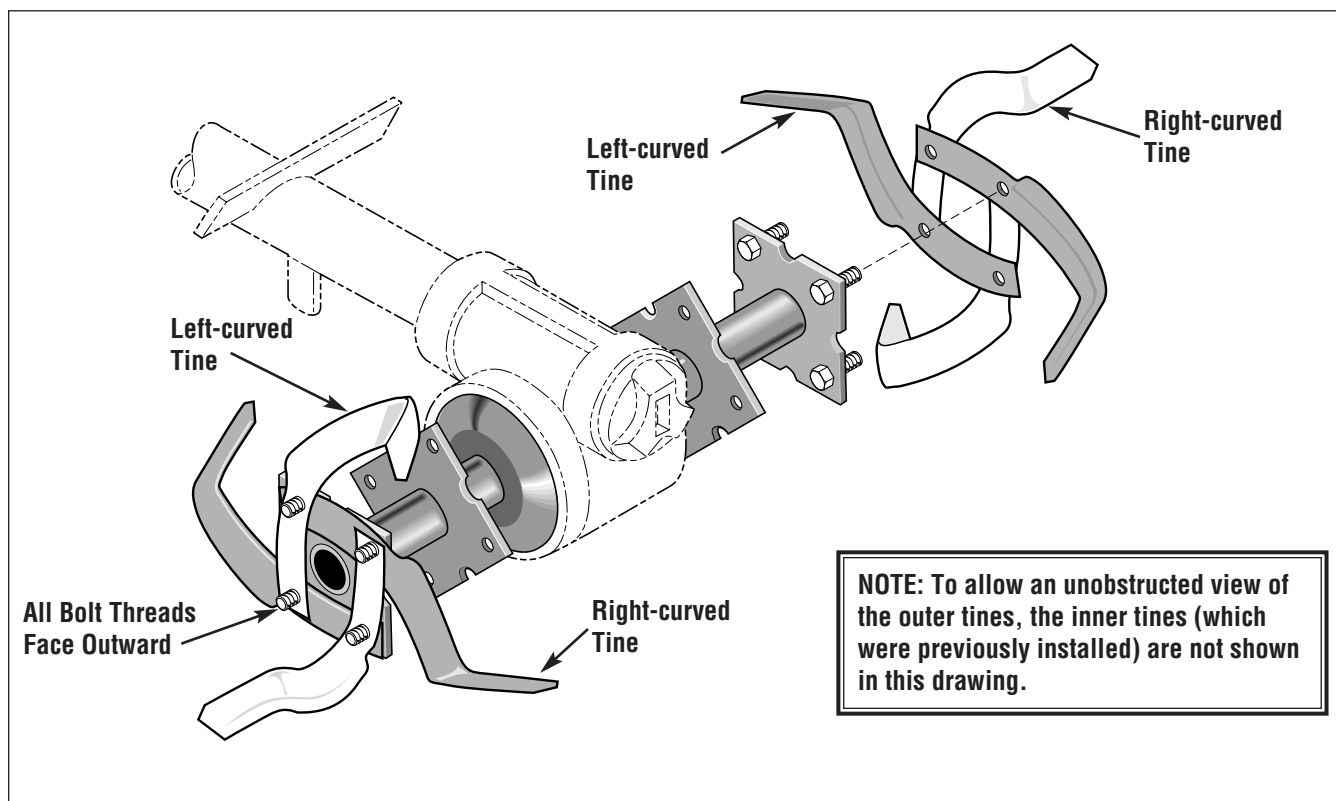

Figure 24: Installing tines on ECONO HORSE outer holders.
A. Place two *right-curved* tines (shown shaded in Figure 24) *opposite* each other on the previously installed bolts. Make sure that the tines are positioned as follows:
B. Place two *left-curved* tines (unshaded in Figure 24) *opposite* each other, overlapping the tines positioned in Step 1-A. Make sure that these tines are positioned as follows:
A. Place two **left-curved** tines (shown shaded in Figure 24) **opposite** each other on the bolts which were previously installed. Make sure that the tines are positioned as follows:
B. Place two **right-curved** tines (shown unshaded in Figure 24) **opposite** each other, overlapping the tines positioned in Step 2-A. Make sure that the tines are positioned as follows: